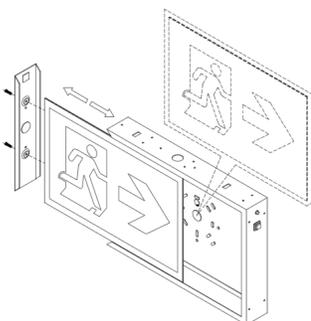

Fig. 2
3. Determine which pictograms will be used. For single sided, use the black mounting plate. For double sided, pictogram cover plates (Fig. 2).